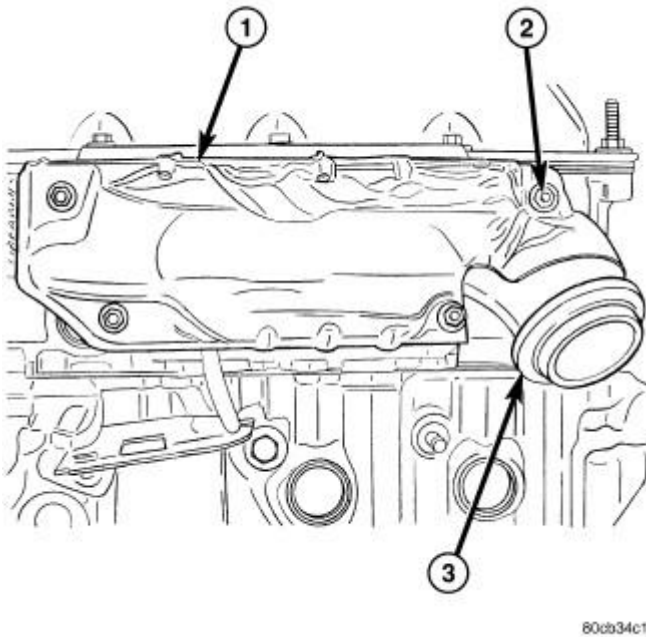

Fig. 139: Exhaust Manifold Left
5. Remove the exhaust heat shields (1).
7. Remove manifold and gasket from the cylinder head. Refer to **Fig. 139**.